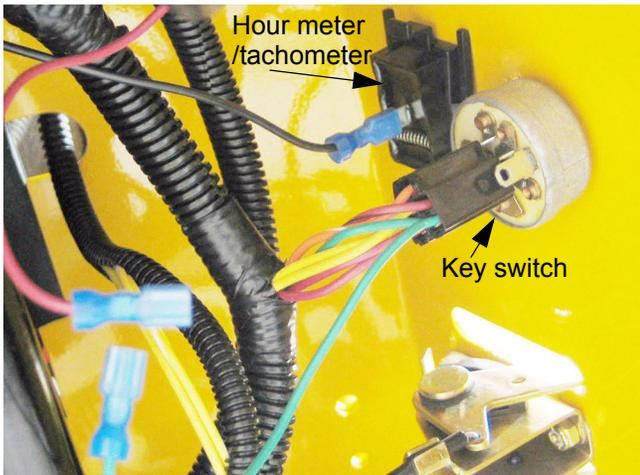

Figure 28.2
28.2. The key switch has six spade terminals, five of which are used in this application. See Figure 28.2.